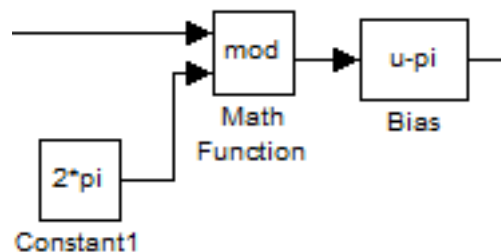

Figure 2.3: **SIMULINK®** modulus and bias blocks
6. Add modulus and bias blocks, as shown in Figure 2.3, to measure *inverted pendulum angle*, defined as Equation 1.1.